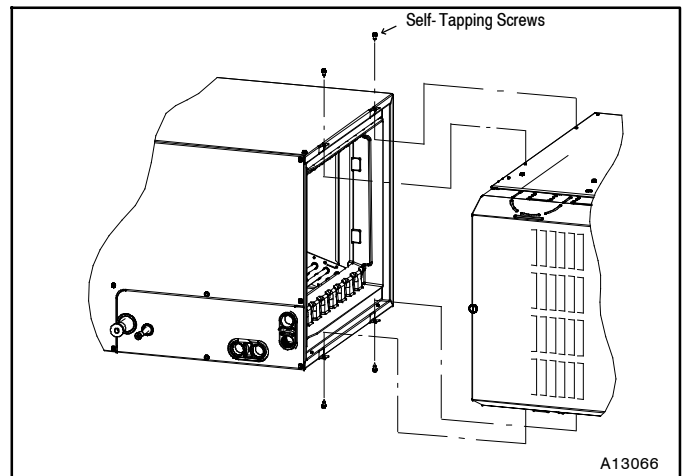

Figure 10 - Horizontal Left Installation
3. Use self-tapping screws to attach furnace. (See **Figure 10**)